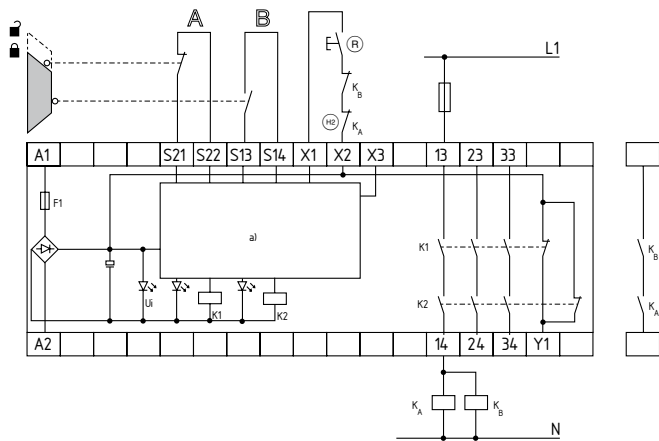

Fig. 2
**Dual-channel control, shown for a guard door monitor with two position switches where one has a positive break contact; with external reset button  $\text{\textcircled{R}}$  (Fig. 2)**